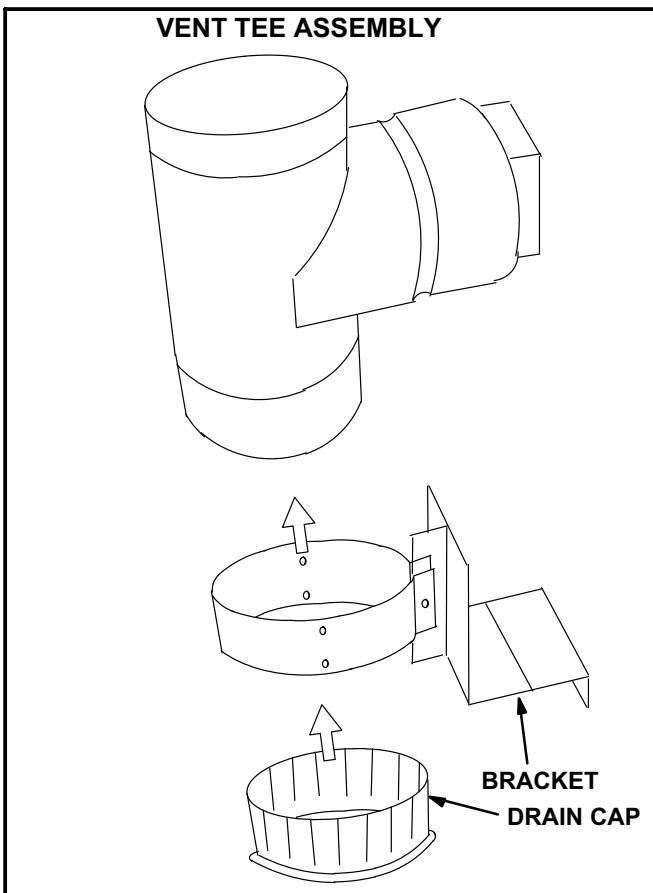

FIGURE 6
- 6- Slide vent strap over bottom of tee and fit the drain cap in the bottom of the tee. See figure 6. Tighten screw in bracket flange. Secure strap and cap with screws on both sides.